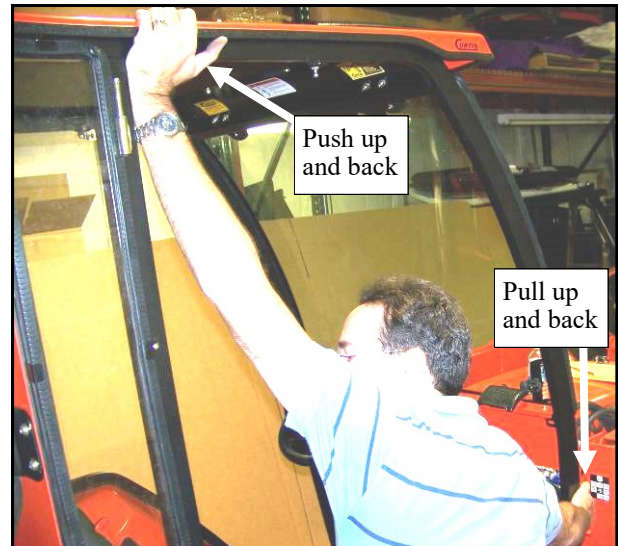
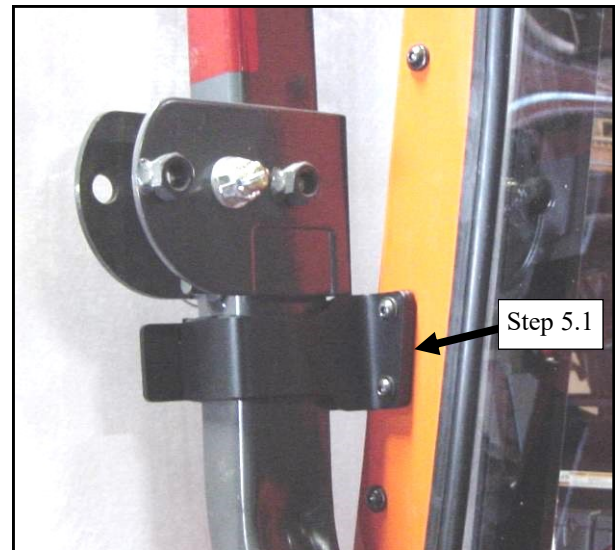

Fig. 5.1a (View of right side of tractor)
Fig. 5.1b (View of left side of tractor)
5.1 See page 15 for left versus right hand parts. Have an assistant lift up on the back of the side frames (see fig. 5.1a) and pull the front back when installing the roll bar brackets. This will keep the cab from sagging towards the back and rotating forward which can create an interference with the loader mounting brackets. Per figure 5.1b, install the lower roll bar brackets using the following hardware per side of the tractor: two 5/16" x 1-1/4" long button head bolts, two steel washers, and two flange locknuts. The bolt heads should be towards the front of the vehicle. Do not tighten the bolts.